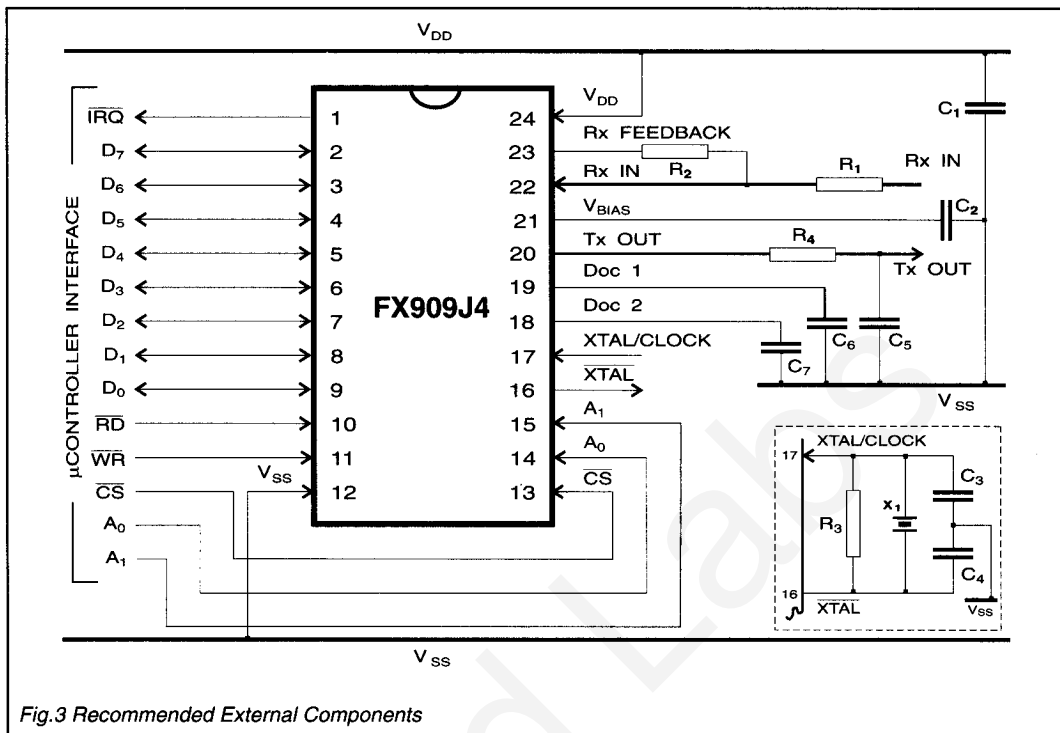

Fig.3 Recommended External Components
18	Doc 2: Connections to the internal Rx signal level measurement circuitry. Capacitors as described in Figure 3 should be fitted between each of these pins and V_{ss} .
- If the on-chip Xtal oscillator is to be used, then the external components X_1 , C_3 , C_4 , and R_3 are required as shown in Figure 3 (inset).